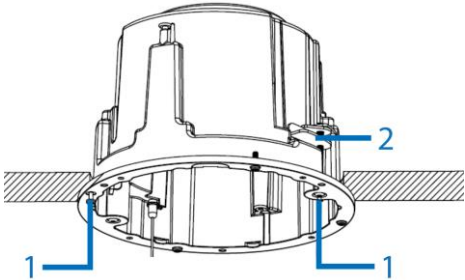

Figure 5
6. Insert the Recessed camera housing into the hole in the ceiling and fasten the two screws (1) (Figure 5) with a screwdriver so that both locking springs paddles (2) (Figure 5) slide out to secure the camera housing into the ceiling.
11. Tighten the two screws (1) (Figure 5) on the camera housing with a screwdriver to ensure IP66 support when the camera is used outdoors.